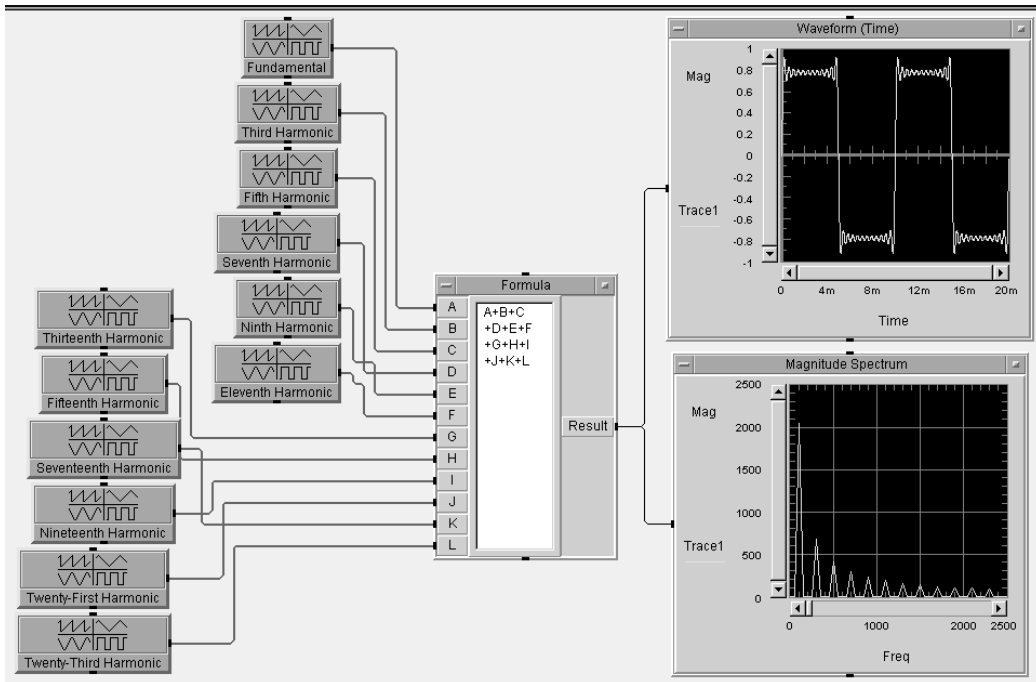

Figure 13.7. A square wave generated by adding twelve sine waves
11. Run this program; it should look like Figure 13.7.